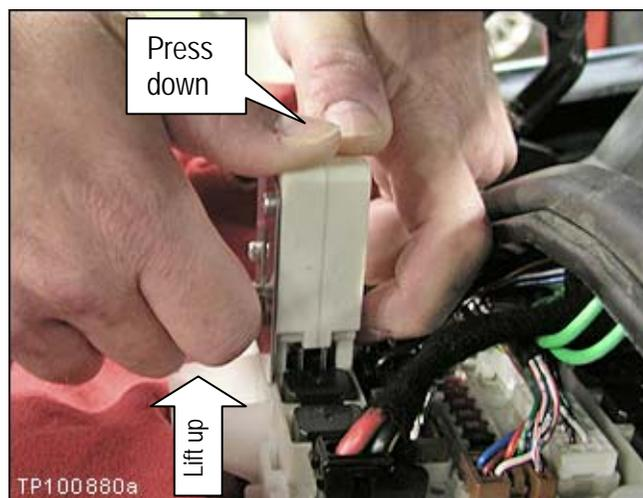

Figure 5
10. Press down on top of special tool J-50389 while lifting the extraction side bars (see Figure 5).